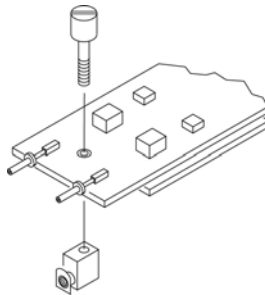

Figure 23 Attaching Ground Block to Probe A1 PC Assembly
- 6 As shown in Figure 23 on page 46, use the grounding screw to reinstall the ground block on the A1 PC assembly.